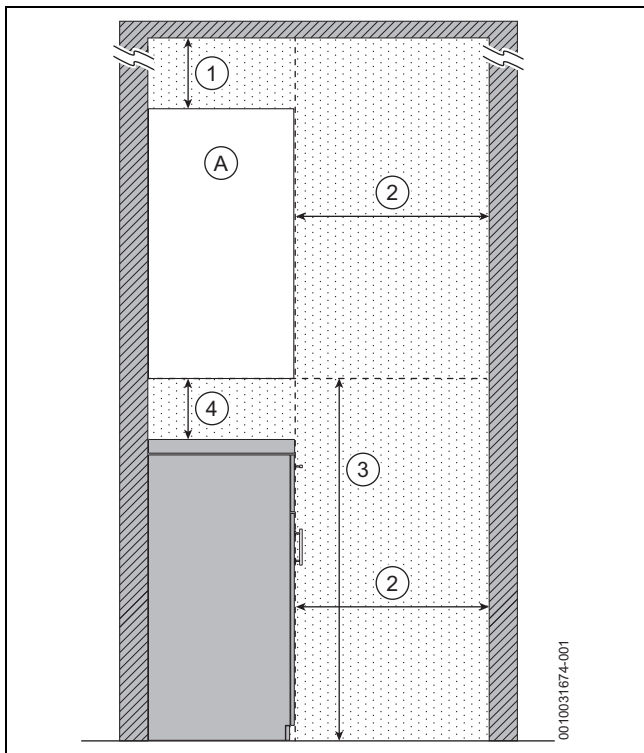

Fig. 12 Reduced front maintenance clearances - Side view
**i** Minimum clearances must be observed to any obstruction/ surface, (dark shaded areas, figures 12 and 13).